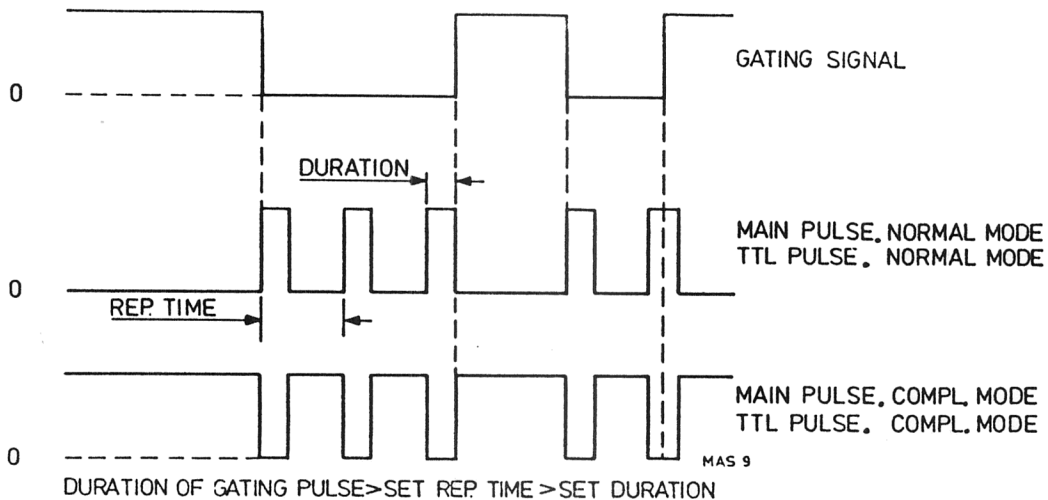

Fig. VI-6 Gated pulse PM 5705
- Select the proper relationship between pulse repetition time and duration and corresponding parameters of the gating signal. Refer to fig. VI-6.
- As shown in fig. VI-6, a gated pulse train is available at the TTL OUT outputs as well.
- Depress switch SINGLE SHOT and note that generator is turned off as long as switch is depressed. Refer to fig. VI-6.